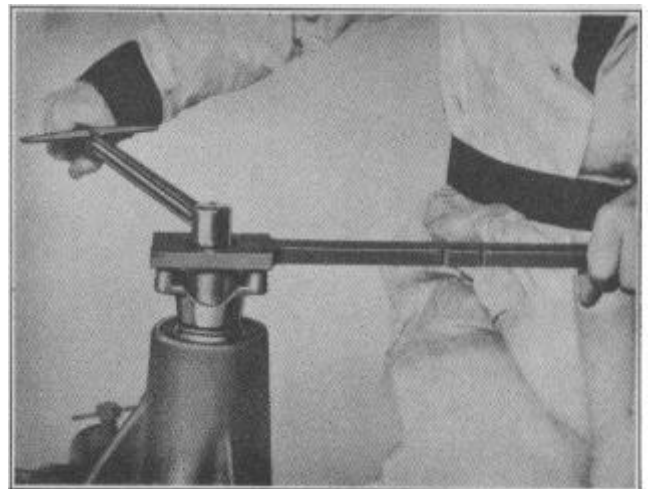

FIGURE 26
9. Holding companion flange with flange holding tool, J-2637 as shown in Figure 26, tighten pinion shaft nut with a torque wrench, until 200 feet pounds has been reached. Drive pinion shaft bearing resistance torque